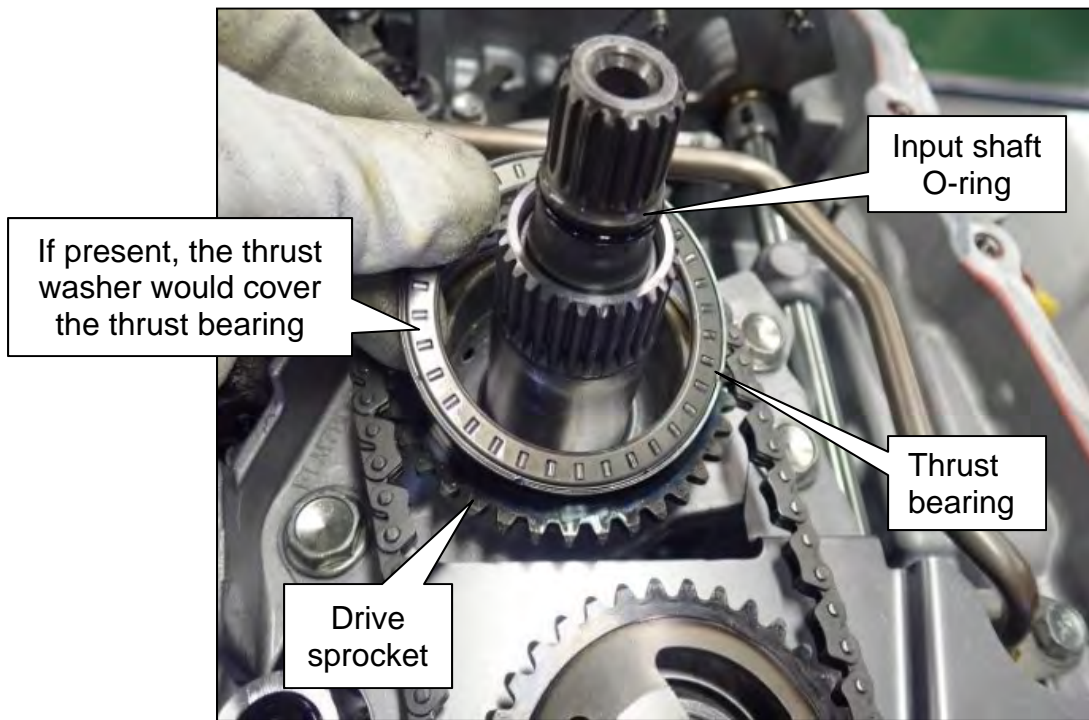

Figure 72
49. Remove the O-ring from the input shaft (Figure 72).